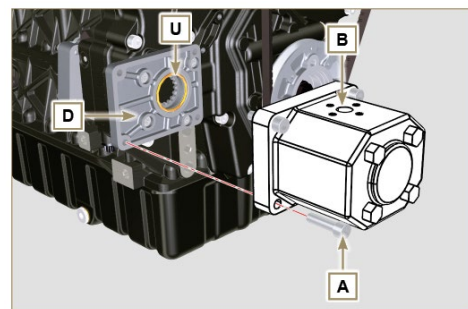

Fig 11.31
- Position the flange **F** on the crankcase **K** inserting the gasket **J**, and inserting the gear **H** up to the stop on the bearing **L** (Fig. 11.31).